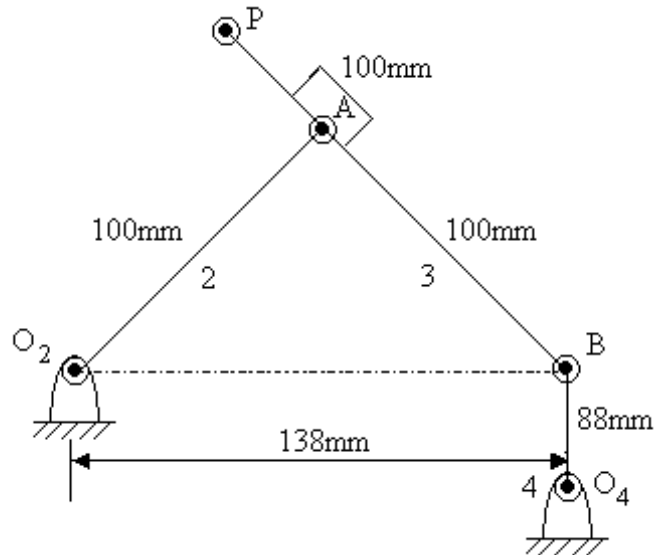

Figure 4
4. In the circuit bracket mechanisms represented in Figure 4 the point P moves in a vertical straight line. In the configuration  $O_4B$  is vertical .If the angular velocity